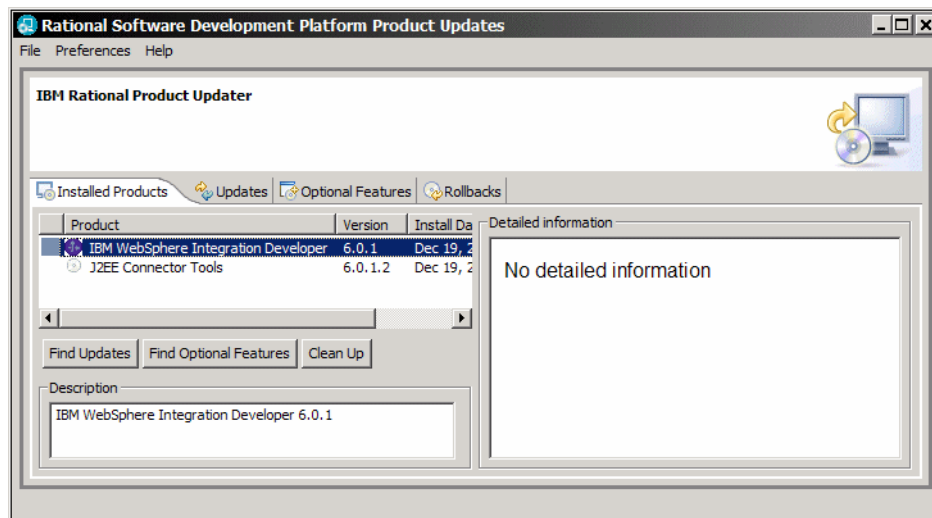

Figure A-7 Rational Product Updater
- ▶ The Rational Product Updater opens. Select *IBM WebSphere Integration Developer* and click *Find Updates* (Figure A-7).